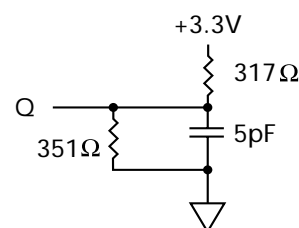

Figure 2
- This parameter is measured with the output loading shown in Figure 2.